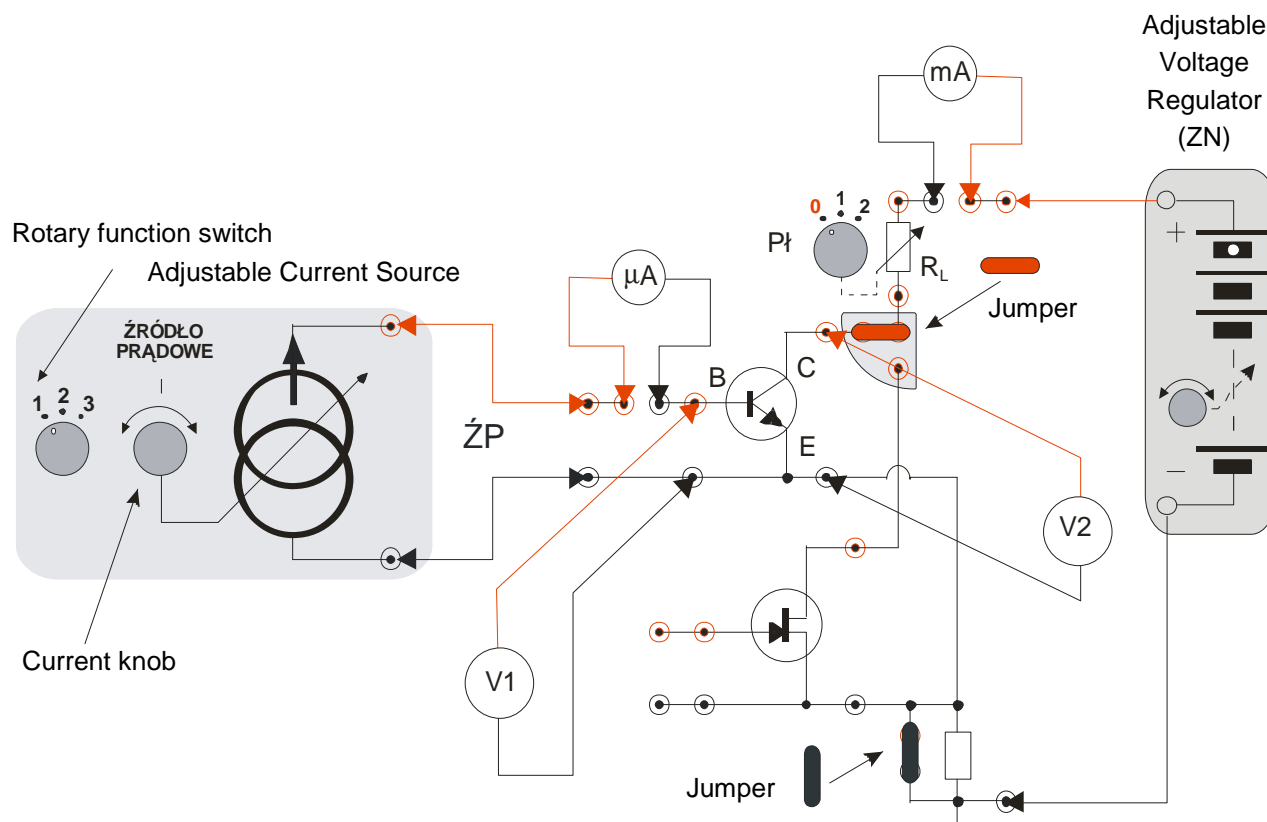

Fig 2. Diagram of connections for bipolar junction transistor's (BJT) characteristics.
1. Check out connections according to the diagram given in the Fig.2.
2. Turn to the most left position the voltage knob on the Adjustable Voltage Regulator (ZN).
3. Set the rotary function switch on the Adjustable Current Source (ZP) to the „1” position (range from 0 to 0.5 mA).
4. Turn to the most left position the current knob on the Adjustable Current Source (ZP).
1. Turn to the most left position the current knob on the on the Adjustable Current Source (ZP).
7. Disconnect the Adjustable Current Source (ZP), Adjustable Voltage Power Supply (ZN), DMMs and Jumpers from measurement panel (testing set is presented at diagram in the Fig.2.)